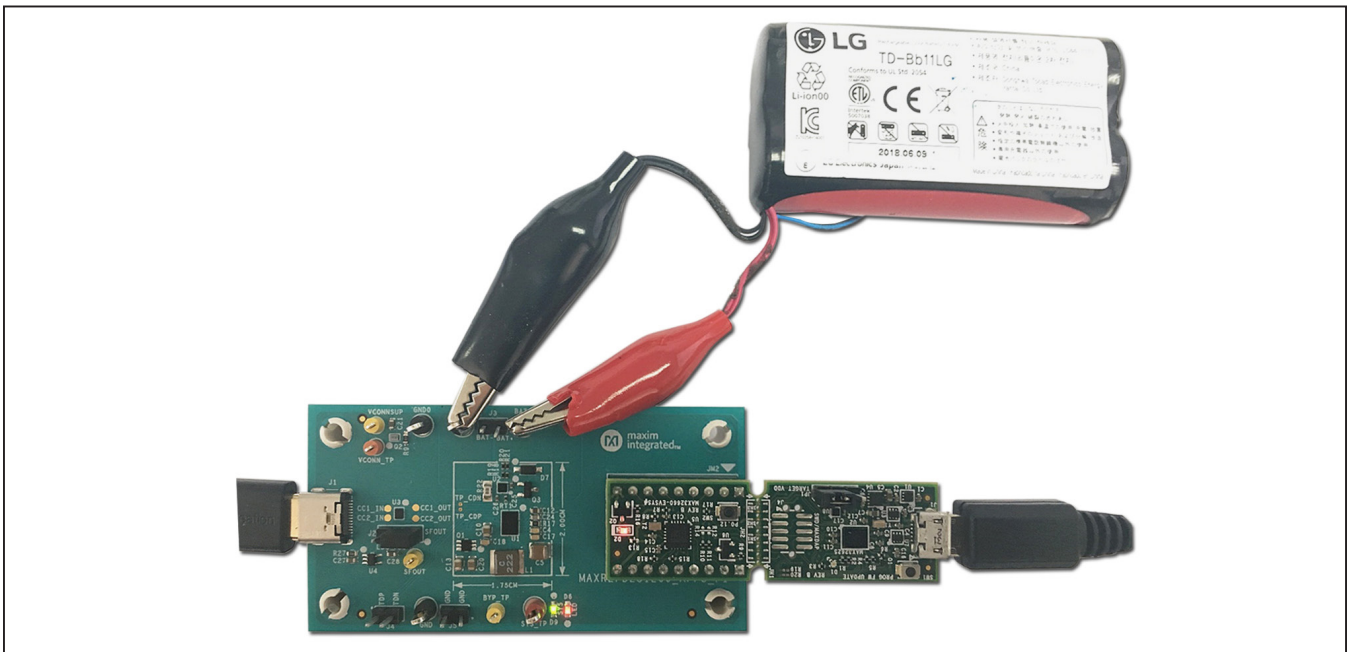
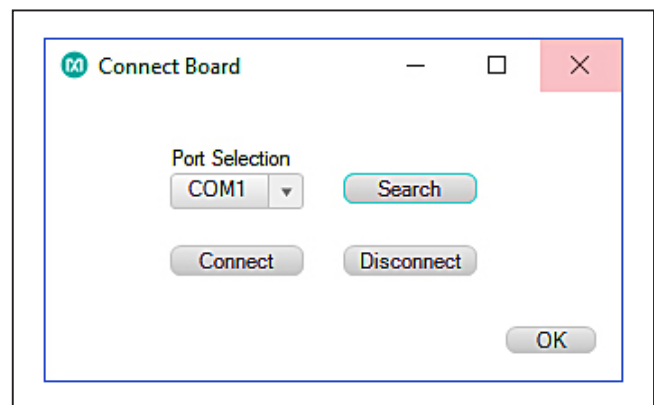

Figure 3. MAXREFDES1260 demo.
Figure 5. Connecting the board window.
The MAXREFDES1260 consists of a MAX14748 and MAX17261, with a MAX20323 as the USB-C CC pins overvoltage protector. Also, the MAXREFDES1260 can be directly connected to the MAX32660EVSYS through ports JM1 and JM2. Figure 3 shows the MAXREFDES1260 demo and Figure 5 shows the JM1/JM2 pinout.
- 4) Run the GUI software after installation. The **Connect Board** window pops up (Figure 5) after the splash screen is dismissed. It includes the COM port control functions. It is dismissed after setting the COM port and clicking OK. The main form appears. The details of the buttons: